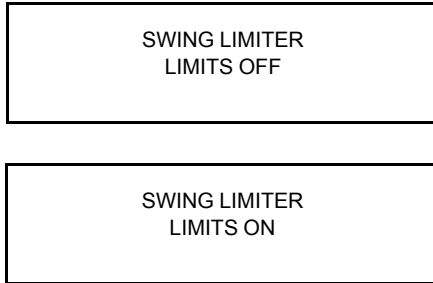

FIGURE 3-60
2. Scroll through the diagnostic screens until either of the screens in Figure 3-60 appears.